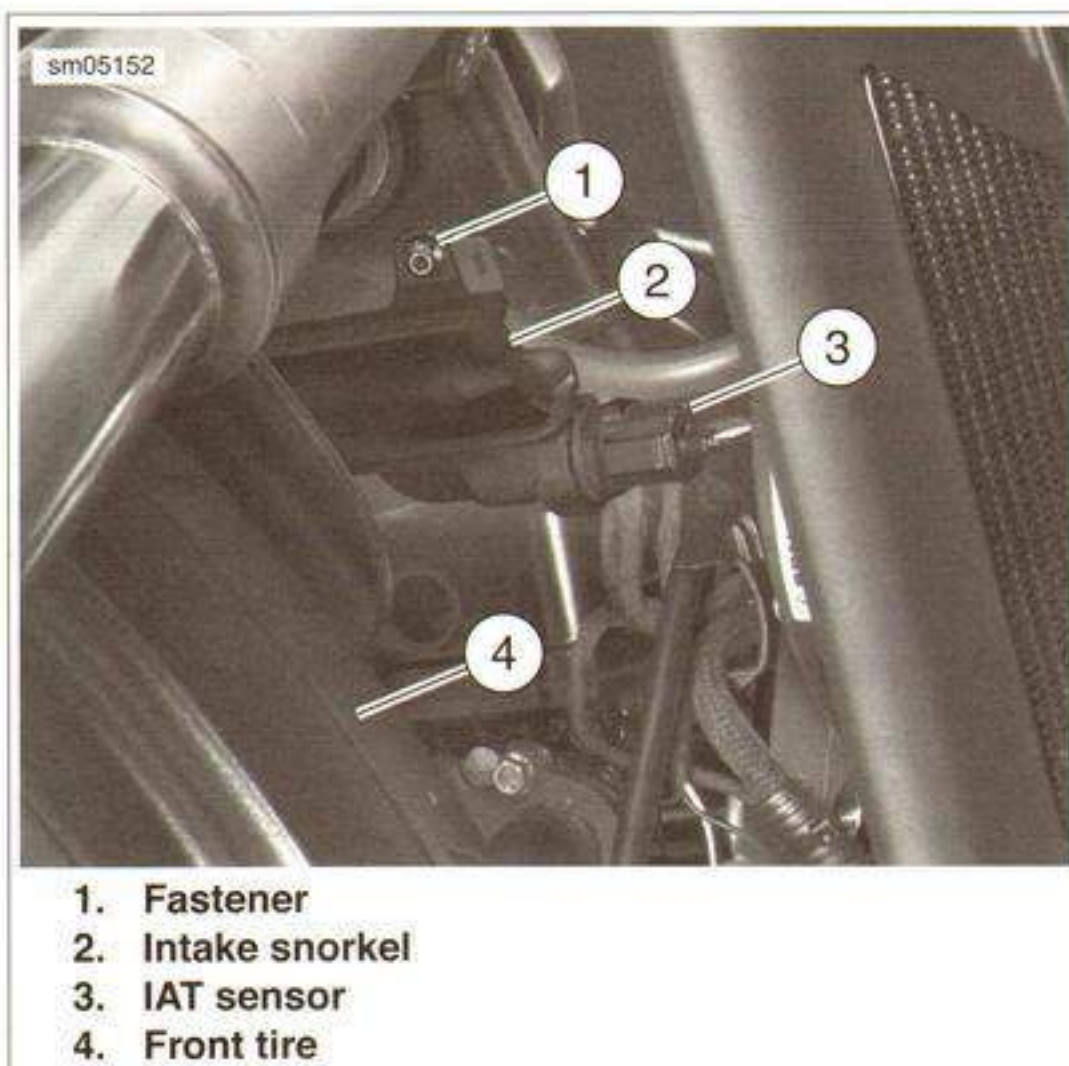

Figure 3-51. Intake Snorkel
- a. See Figure 3-51. Install intake snorkel (2) and fastener (1). Tighten to 13.0-14.5 Nm (115-128 in-lbs).
- b. Install IAT [89] sensor (3) into intake snorkel.